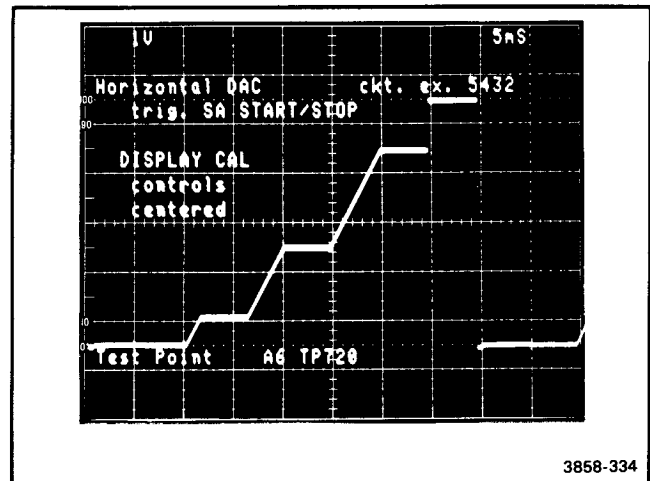

Figure 3-14. Waveform for Horizontal DAC test.
30) Horizontal DAC (5432). If this test fails, place the Display Board on an extender and run circuit exercise 5432. Use an oscilloscope to troubleshoot the Horizontal DAC. Waveform Figure 3-14 is a typical output of this test. The SA Start/Stop line provides a stable oscilloscope trigger while using this test for troubleshooting.